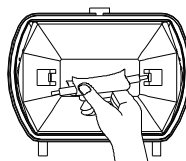

FIGURE 15
3) Install the lamp by inserting one end into the lamp holder and depressing until enough clearance is gained to seat the other end of the lamp into the lamp holder. Rotate the halogen lamp to ensure proper seating (FIGURE 15).